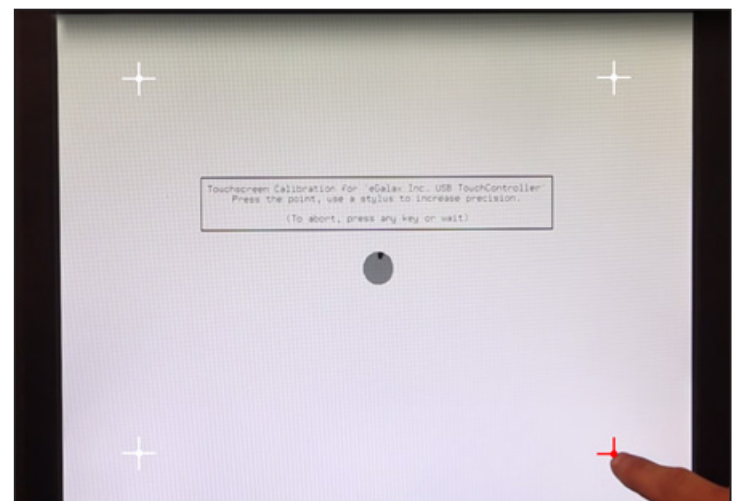

Figure 6
3. Following on-screen instructions, touch each point with one finger to calibrate monitor (see **Figure 6**).